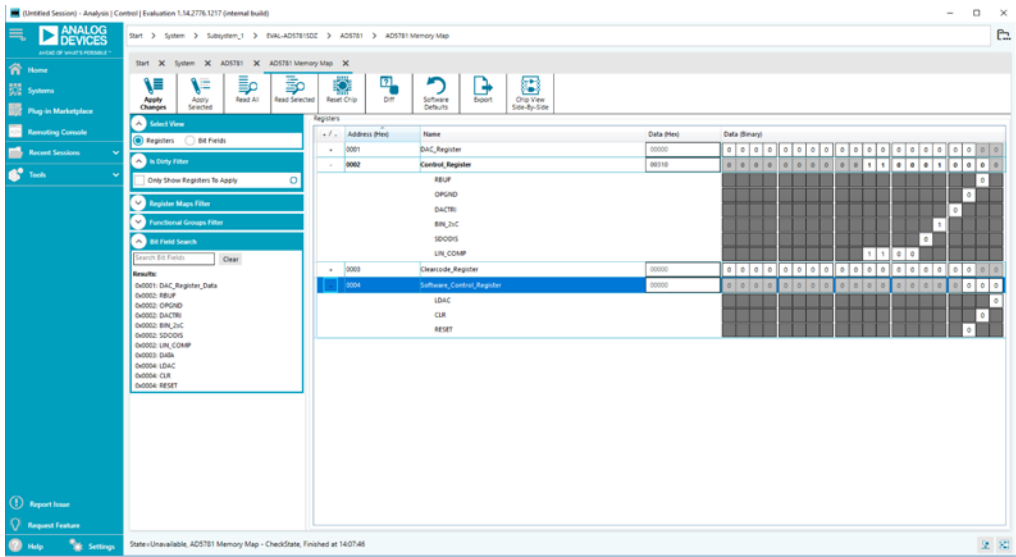
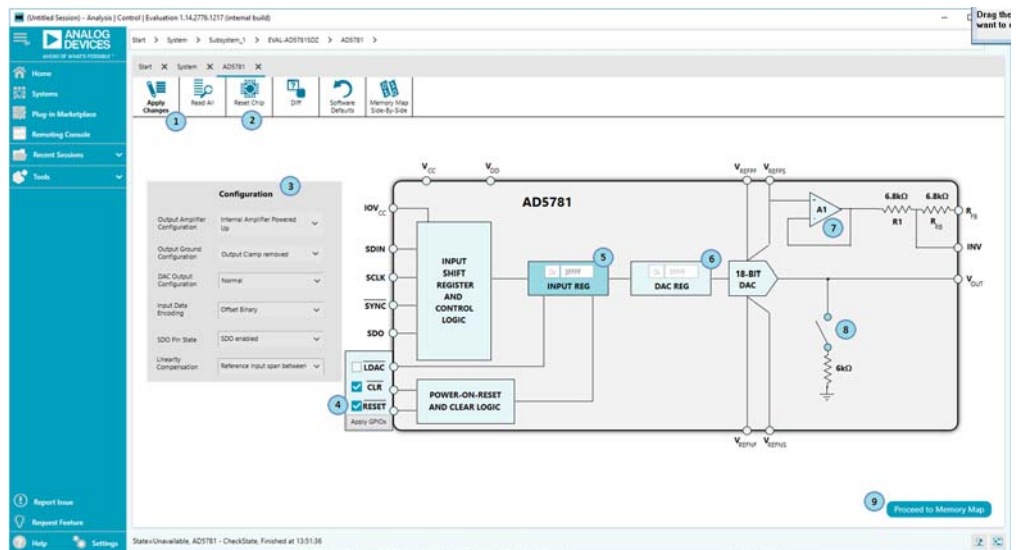
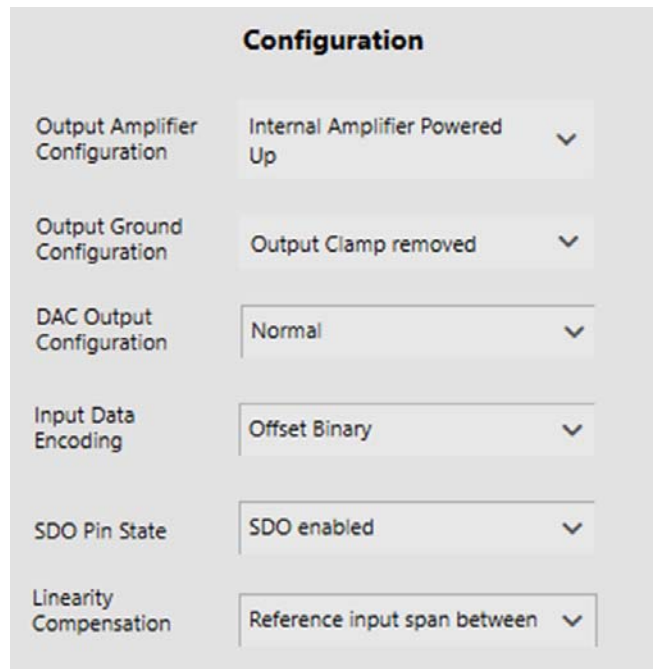

Figure 10. AD5781 Memory Map Tab for the EVAL-AD5781SDZ ACE Software
Figure 11. Main Window for the EVAL-AD5781SDZ ACE Software
Figure 12. Configuration Pane in the ACE Software
4. Click **Proceed to Memory Map** (Label 9 in Figure 11) to open the **AD5781 Memory Map** tab and allow access to all registers (see Figure 10). The hardware registers in the AD5781 are not altered until the user clicks **Apply Changes**.
For a details on the GUI options, see Table 6, Figure 11, and Figure 12.
¹ See Figure 11.